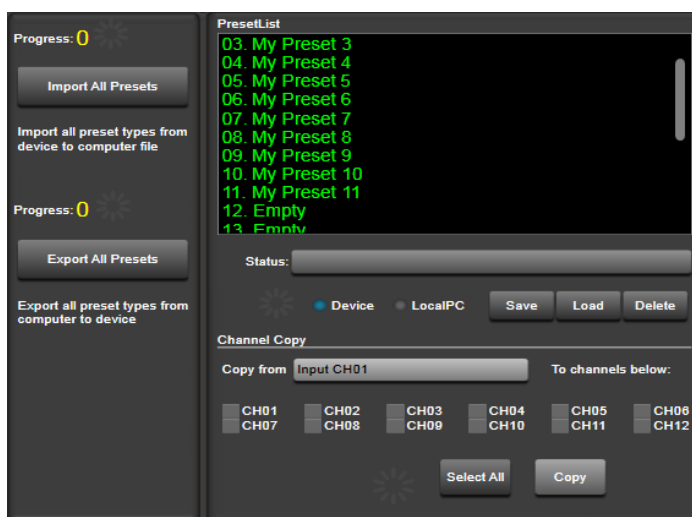

Fig. 27 View "Save/Load/Copy"
7.12 View "Save/Load/Copy" (fig. 27)
The name of the input or output selected can be found in the field "Copy from" (☞ fig. 27).
- 3) Under "To Channels below:" (☞ fig. 27), select the channels to which these settings are to be copied.